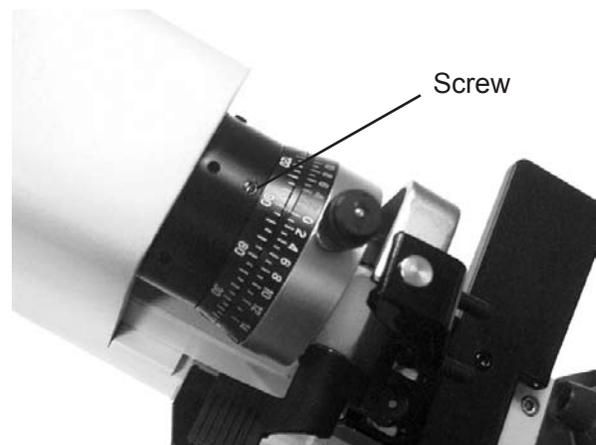

Figure MM-03 Prism Compensator Screws
1. Using a flathead screwdriver, remove the 3 Screws in the Prism Compensator. Refer to Figures MM-03 and MM-04.
**Note:** There is a Screw on the top of the Prism Compensator, and one on each side. Only two Screws are visible in Figures MM-03 and MM-04.